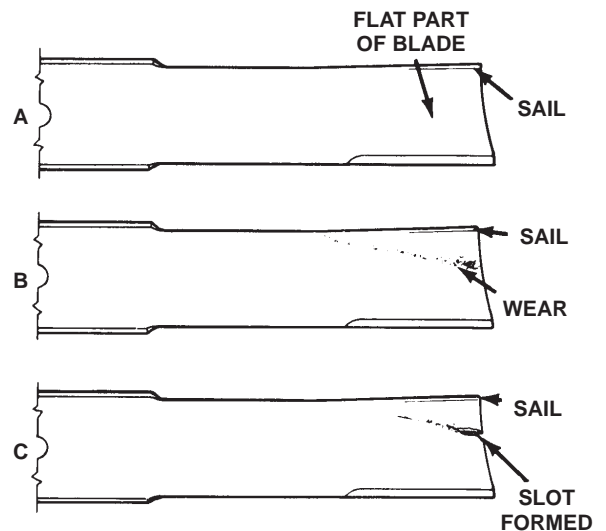

Figure 81
- Examine cutting ends of the blade carefully, especially where the flat and curved parts of the blade meet (Fig. 81-A). Since sand and abrasive material can wear away the metal that connects the flat and curved parts of the blade, check the blade before using the machine. If wear is noticed (Fig. 81-B), replace the blade; refer to Removing and Installing the Blade, page 45.